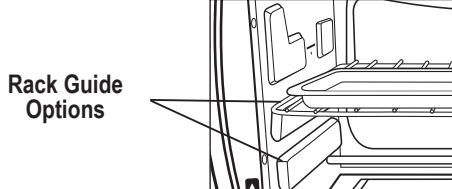

Figure 11
• To accommodate a wide variety of foods the oven has two rack positions. The rack can be inserted in the oven in the upper or lower rack guides. The rack will fit into either of the rack guides inside of the Countertop Oven. (See Figure 11)